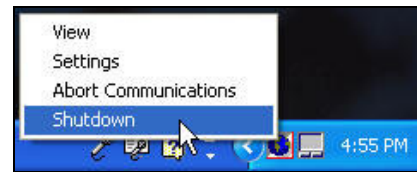

Figure 31.0.4
4. Select **Shutdown** from the list (Figure 31.0.4).